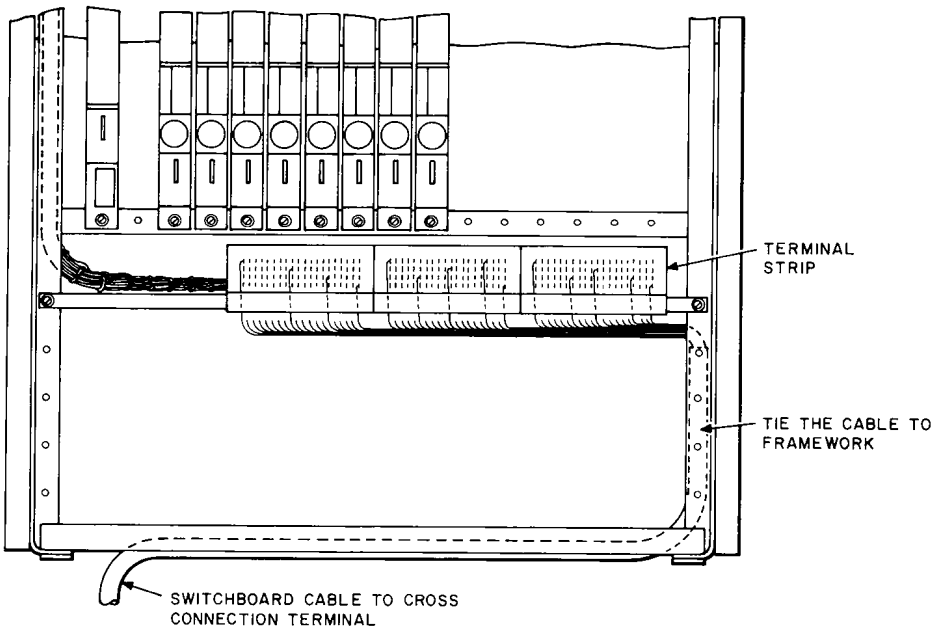

Fig. 13—Arrangement for Terminatng Switchboard Cable when Cross-Connecting Terminal is Provided—Rear View
3.26 *Terminate the cable from the cross-connecting terminal* on the terminal strips in the bottom rear of the PBX as shown in Table E and Fig. 13, 14, and in accordance with SD-66520-01.